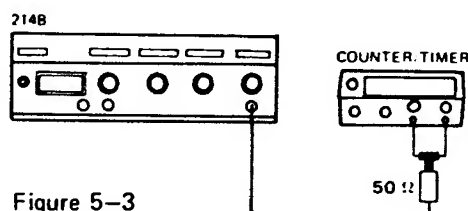

Figure 5-3
1. Connect equipment as shown in Figure 5-3 and set 214B controls as follows: